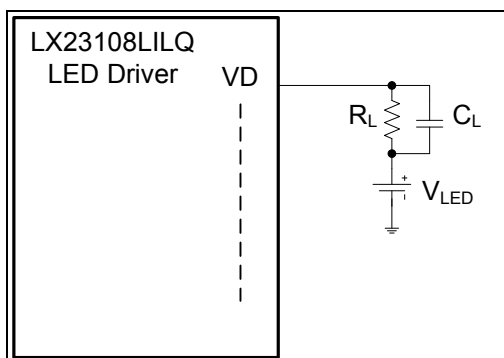

Figure 2: Test Circuit for Channel Rise/Fall Time Measurements
**Note 2:** Figure 2 shows the test circuit for rise/ fall time measurements.